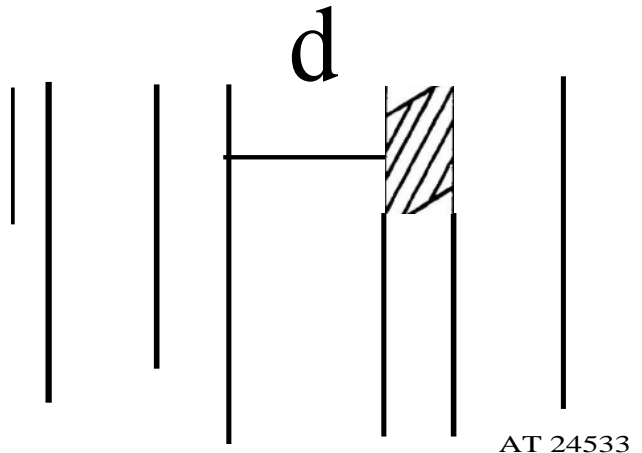

Figure 4. Critical crankshaft loading zones.
4. Used crankshafts will sometimes show a certain amount of ridging caused by the groove in the upper main bearing shell. See figure 4. If this
factory parts stock. Crankshaft failures are rare, and when one cracks or breaks completely, it is very important to make a thorough inspection for contributory factors. Unless abnormal conditions are, discovered and corrected, there will be a repetition of the failure. There are two types of loads imposed on a crankshaft in service—a bending force and a twisting force. The design of the shaft is such that these forces produce practically no stress over most of the surface. Certain small areas, designated as critical areas, however, sustain most of the load (fig. 4).